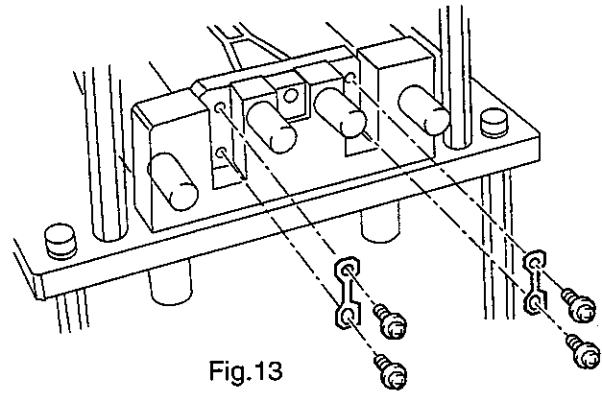

Fig.13
Step 9 Remove the fulcrum flexures (Fig 13).